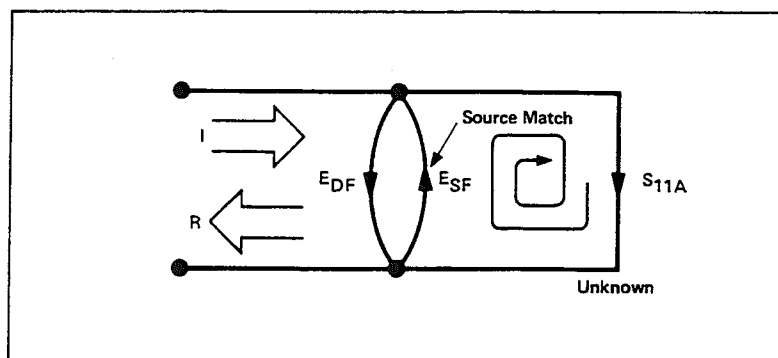

Figure 7-52. Source Match ESF
Source match error. Since the measurement system test port is never exactly the characteristic impedance, some of the reflected signal is re-reflected off the test port, or other impedance transitions further down the line, and back to the unknown, adding to the original incident signal (I). This effect causes the magnitude and phase of the incident signal to vary as a function of S_{11A} and frequency. This re-reflection effect and the resultant incident power variation are modeled by the source match error term, ESF (Figure 7-52).